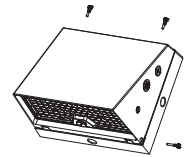

Fig. 2.5
7. Tighten both screws on the top of the luminaire to complete the installation (Fig 2.5).